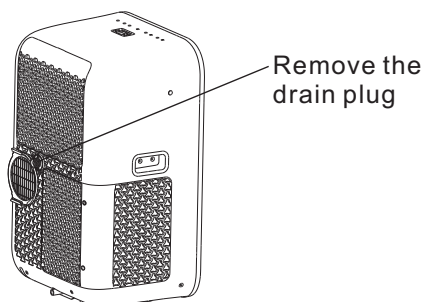

Fig.23
- During dehumidifying modes, remove the drain plug from the back of the unit, install the drain connector(5/8" universal female mender) with 3/4" hose(locally purchased). For the models without drain connector, just attach the drain hose to the hole. Place the open end of the hose directly over the drain area in your basement floor. Please refer to Fig.23 & 24.
- Remove the rubber plug at the back of the unit and attach a hose to drain outlet. Place the open end of the hose directly over the drain area in your basement floor (See Fig.23 & 24).